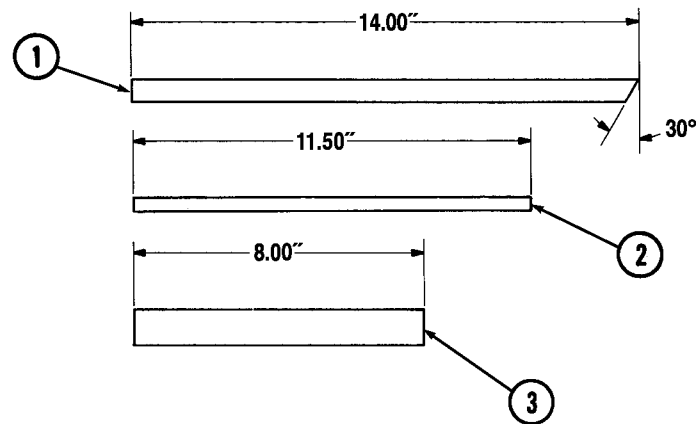
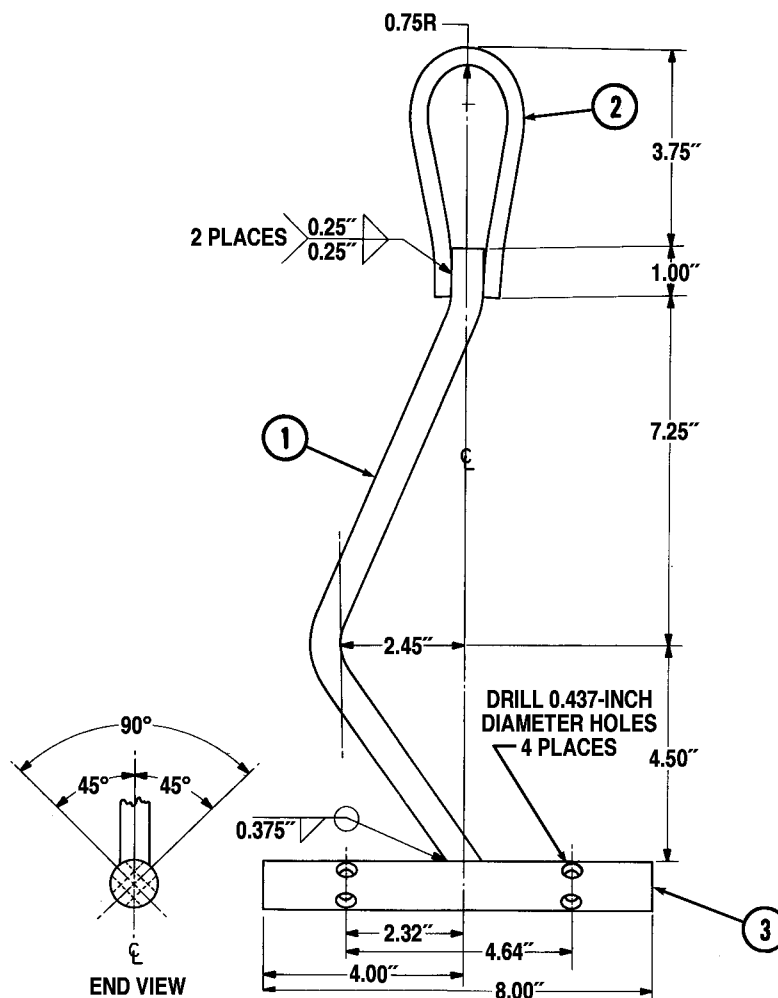

Figure C-47. Bars For Cylinder Head Lifting Device.
Figure C-48. Cylinder Head Lifting Device.
1. Cut a 14-in. long section (1) of metal bar from NSN 9510-00-224-1692 as shown in figure C-47. Bend metal bar (1) as shown in figure C-47.
2. Cut an 11.5-in. long section (2) from NSN 9510-00-287-9402 as shown in figure C-47. Bend metal bar (2) as shown in figure C-48.
3. Cut an 8-in. long section (3) from NSN 9510-00-596-1405 as shown in figure C-47. Locate, mark, and drill four 0.437-in. diameter holes through metal bar (3) as shown in figure C-48.
5. Weld all three metal bars together as shown in figure C-48. All welds will be in accordance with MIL-STD-1261 Class 2. All weld sizes are minimal.